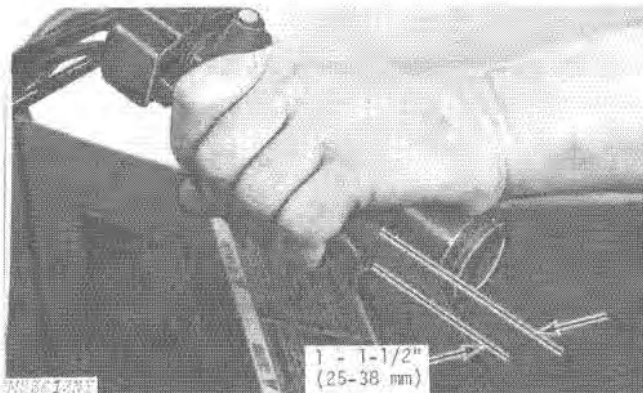

Fig. 6-Brake Lever
2. Turn adjusting screw in until 1 to 1-1/2 inches (25 to 38 mm) clearance exists between the brake lever and the handgrip, Fig. 6.